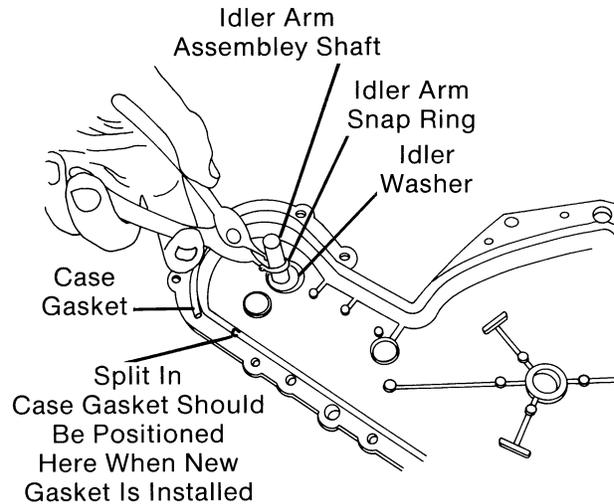

FIG. 22
F. Idler arm assembly can be removed by removing snap ring on inside of chain case. (Fig.22) Remove idler washer under snap ring and pull shaft out. NOTE: Replace shaft O-ring with a new o-ring when reinstalling idler arm assembly.
IMPORTANT: Case gasket is a split type gasket. When gasket is properly installed the split should be at the top of chain case (idler end). (Fig. 22)